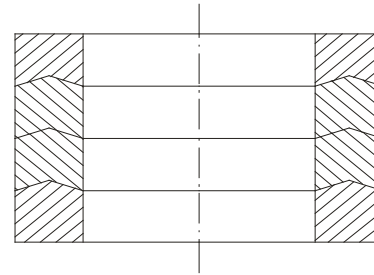

FIG 5A. STEM PACKING
4. Slide each packing ring over the stem and into packing chamber. Ensure if “v-type” PTFE packing set, the packing is correct way up. See figure 5A. If v-type packing, a genuine packing set must be used. Carefully tap each ring into place and continue installing rings until the recommended number of rings have been installed. A thin smear of molybdenum sulfide anti-seize grease may be used on the stem and packing chamber wall for packing lubrication.